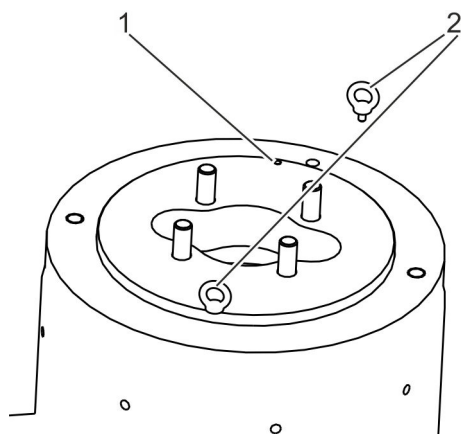

Fig. 8: Screwing the ring bolts into the clamping lid
2. → Screw the ring bolts (Fig. 8/2) into the threaded bores (Fig. 8/1) on the clamping lid.
3. → Ensure that the ring bolts (Fig. 8/2) are fully screwed into the clamping lid.
4. → Attach the ring bolts (Fig. 8/2) to the hoist.